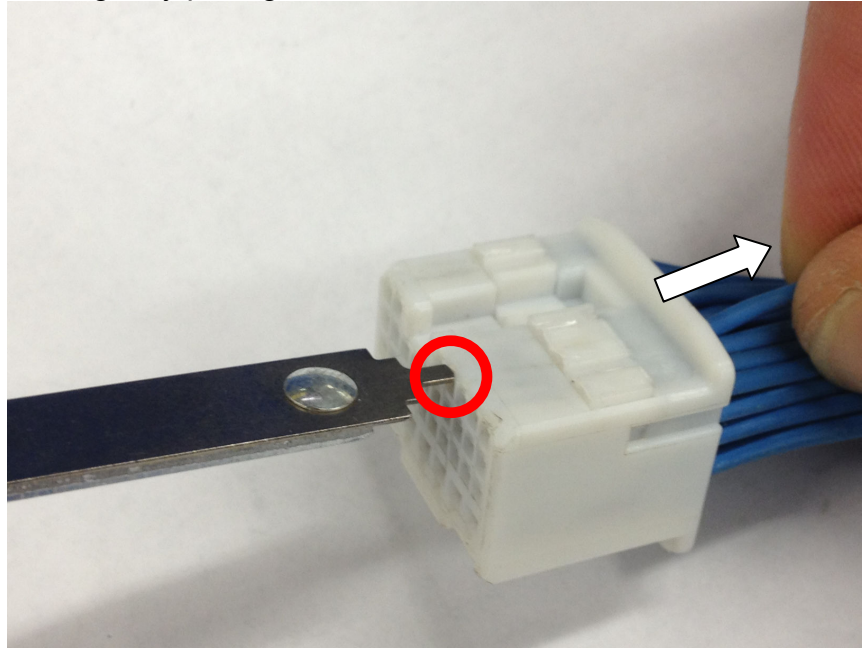

Figure 4: Insert removal tool (Molex tool shown) and pull on wire
- Next remove the pin from the plastic connector by inserting the removal tool (factory recommended part available at Digikey, number 1276565-1 or alternatively you can use a cheaper Molex depinning tool, part number 11-03-0043) to release the pin from the plastic connector, then gently pulling on the wire at the same time as shown in figure 4.